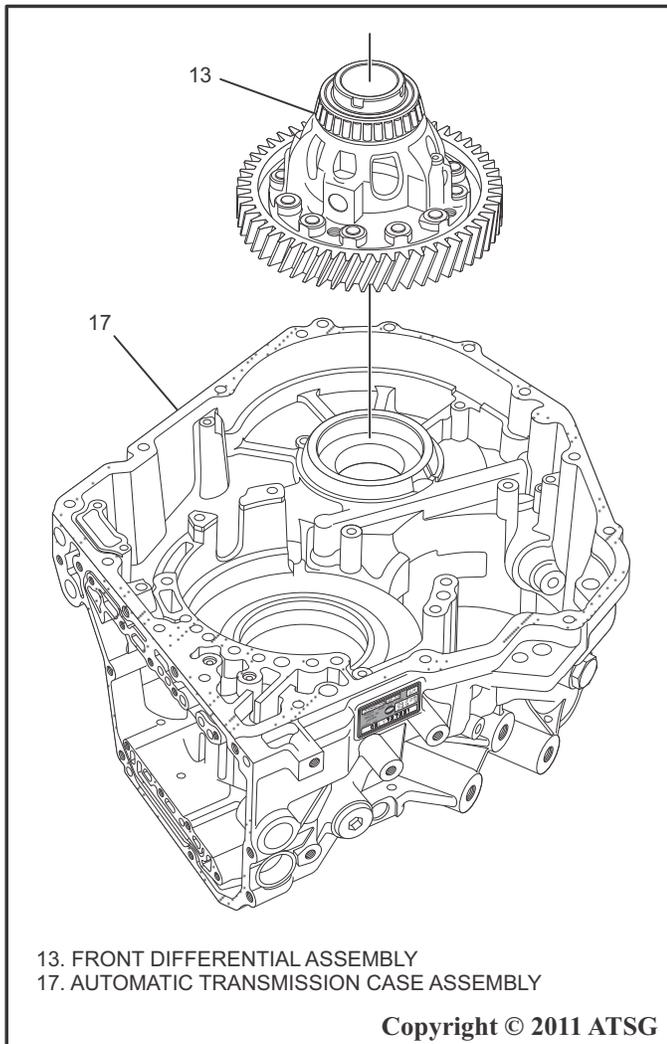

Figure 80
1. Rotate the transmission case assembly so the converter housing side is facing upward, and install the front differential assembly into the empty case as shown in Figure 80.